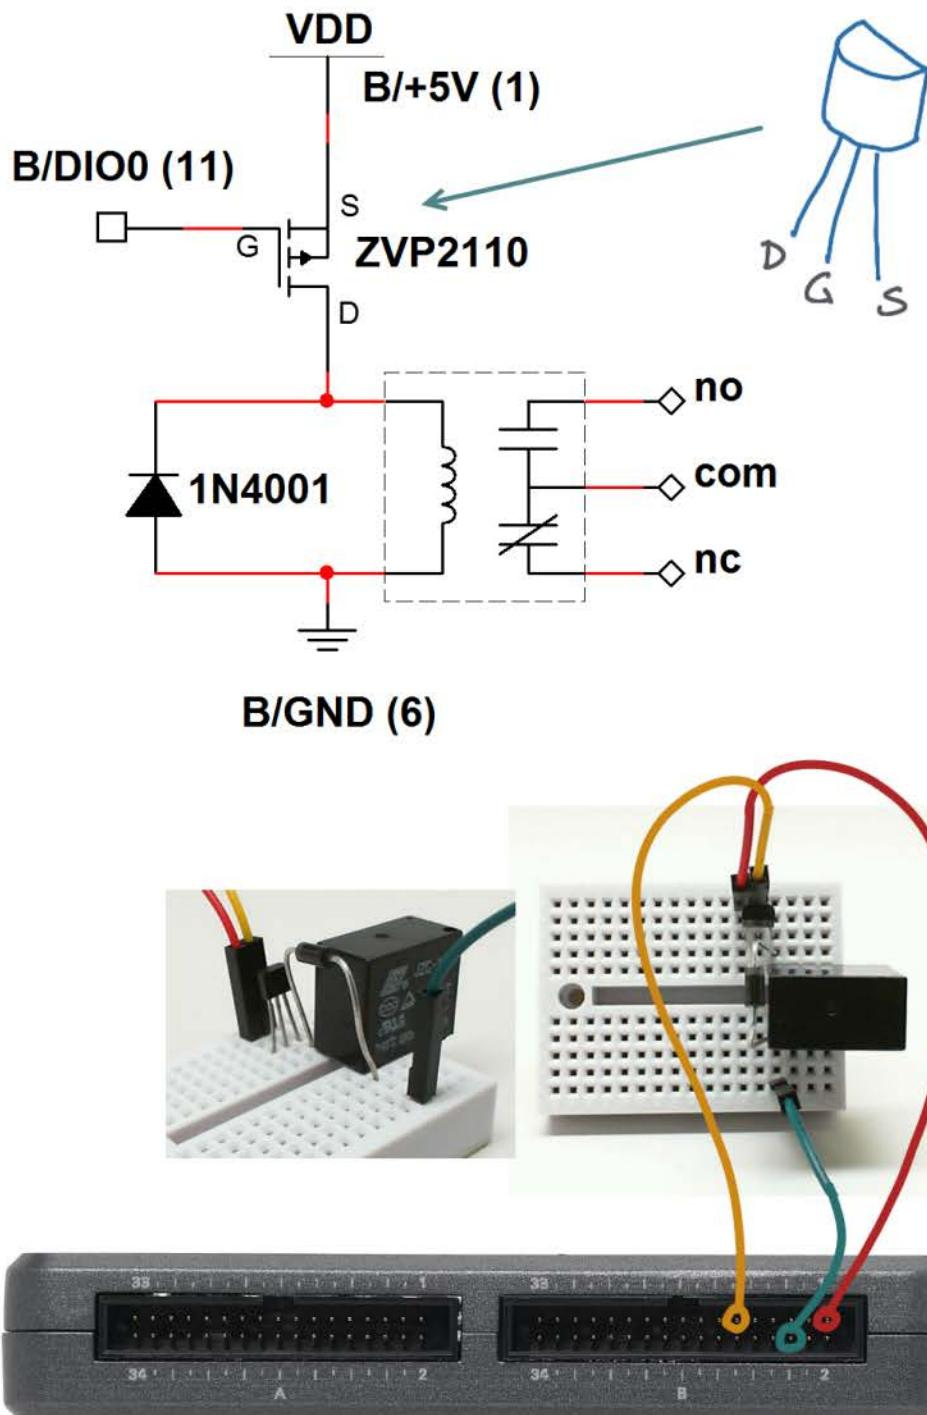

Figure 6.2: Demonstration circuit for relay: schematic diagram, recommended breadboard layout, and connection to NI myRIO MXP Connector B.
Build the interface circuit: Refer to the schematic diagram and recommended breadboard layout shown in Figure 6.2 on page 25. Note that the three relay switch contacts do not sit on tenth-inch centers,
- Blink two LEDs to simulate a railroad crossing signal; use the three relay contacts “normally open” (NO), “normally closed” (NC), and “common” (COM) as shown in Figure 6.2 on the previous page.